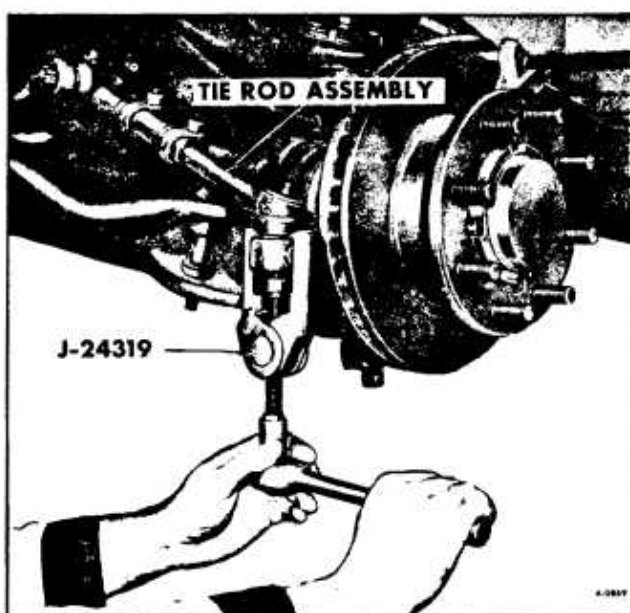

Figure 14—Removing Tie Rod End
6. Using Tool J-24319 remove tie rod end as shown in Figure 14.